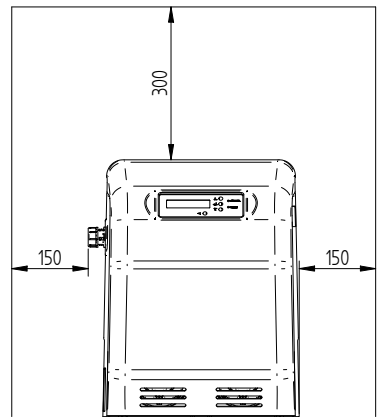

Fig. 2
- 2.12 **Access and minimum clearance requirements:** For emergencies and maintenance the Matrix Midi must be easily accessible and have the minimum clearance around it as laid out in Fig. 2. Additional access to the front of the unit will be required to operate the keypad and view the display.